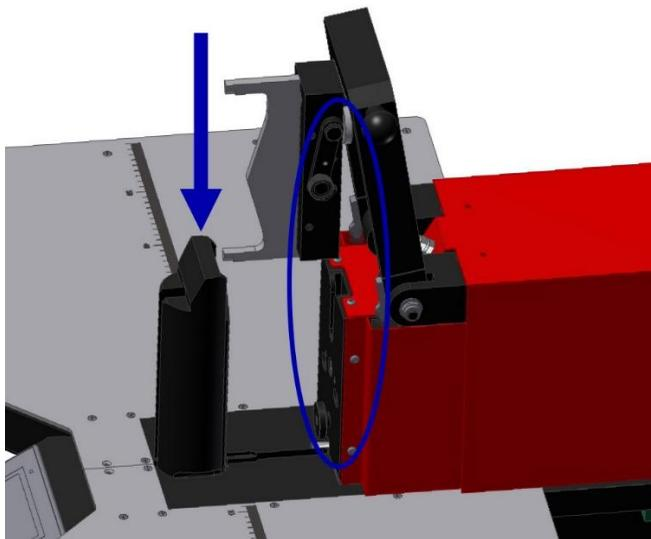
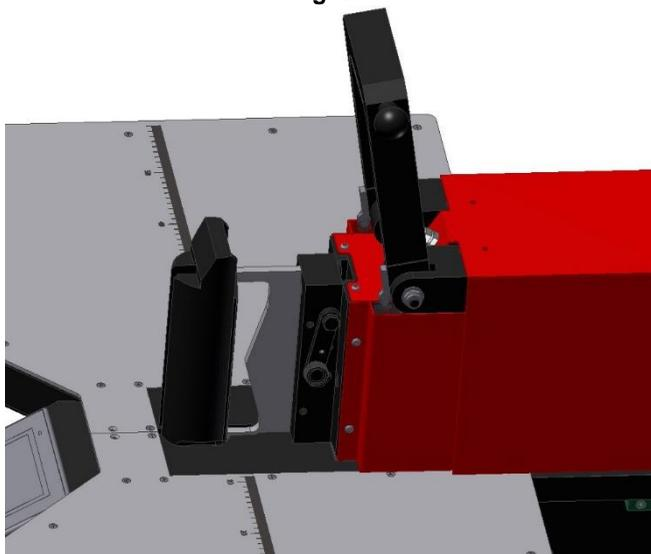

Fig. 37.
Fig. 38.
- Mount the bending insert using the guiding elements (fig. 37) (fig. 38).